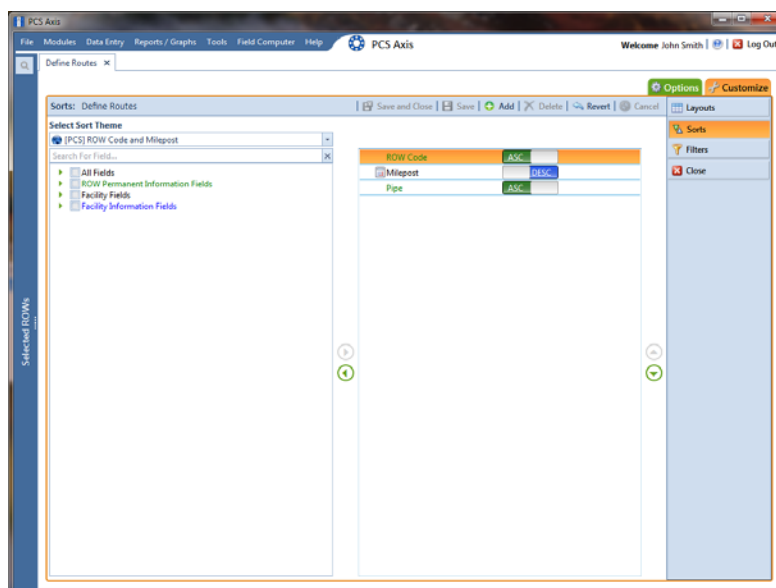

Figure 7-48. Sorts
- 3 Click the **Customize** tab , then the **Sorts** button  to open the *Sorts* page (Figure 7-48, page 336).